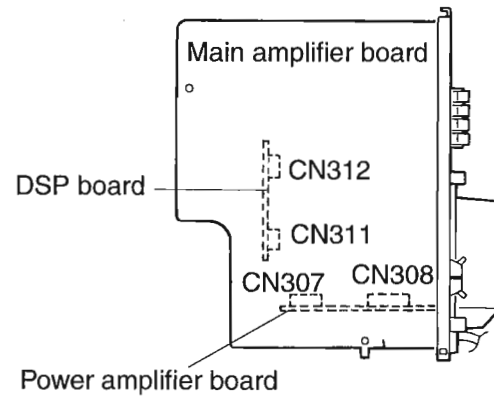

Fig. 3-15
6. Disconnect the connectors CN307 and CN308 on the main amplifier board from the power amplifier board. (See Fig. 3-15)
7. Remove the connectors CN311 and CN312 on the DSP board. (See Fig. 3-15)